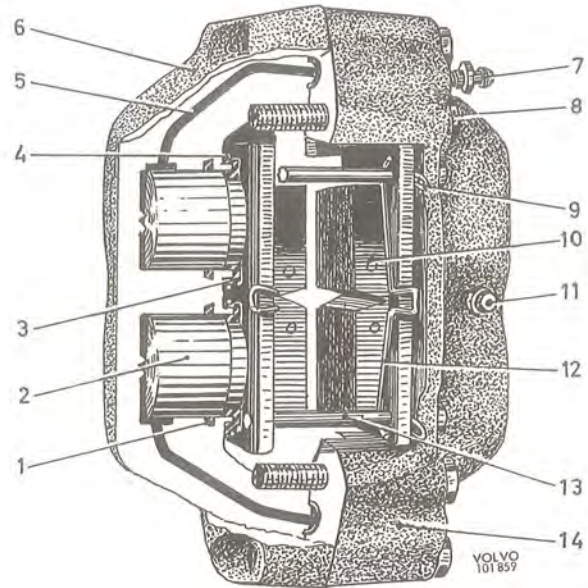

Fig. 5-8. Front wheel brake caliper
Mounted on the stub axle is the front wheel caliper (2) which houses the wheel unit cylinders and brake pads. The front wheel brake caliper consists of a housing in two halves (6 and 14, Fig. 5-8) bolted together and located on either side of the brake disc. Each half contains two cylinders and pistons. The upper cylinder is completely separated from the lower one, but both upper and lower cylinder are each connected through channels to the corresponding cylinder in the other half. The function of the sealing rings (1) is partly to prevent brake fluid from oozing out and partly to return the pistons to the rest position after braking. Rubber dust covers (3) prevent dirt from entering. Each sealing ring has a square section and presses against the piston from the slightly oblique groove in the housing. The brake pads (10) are provided with bonded facings and are held in position by means of retaining pins (13).